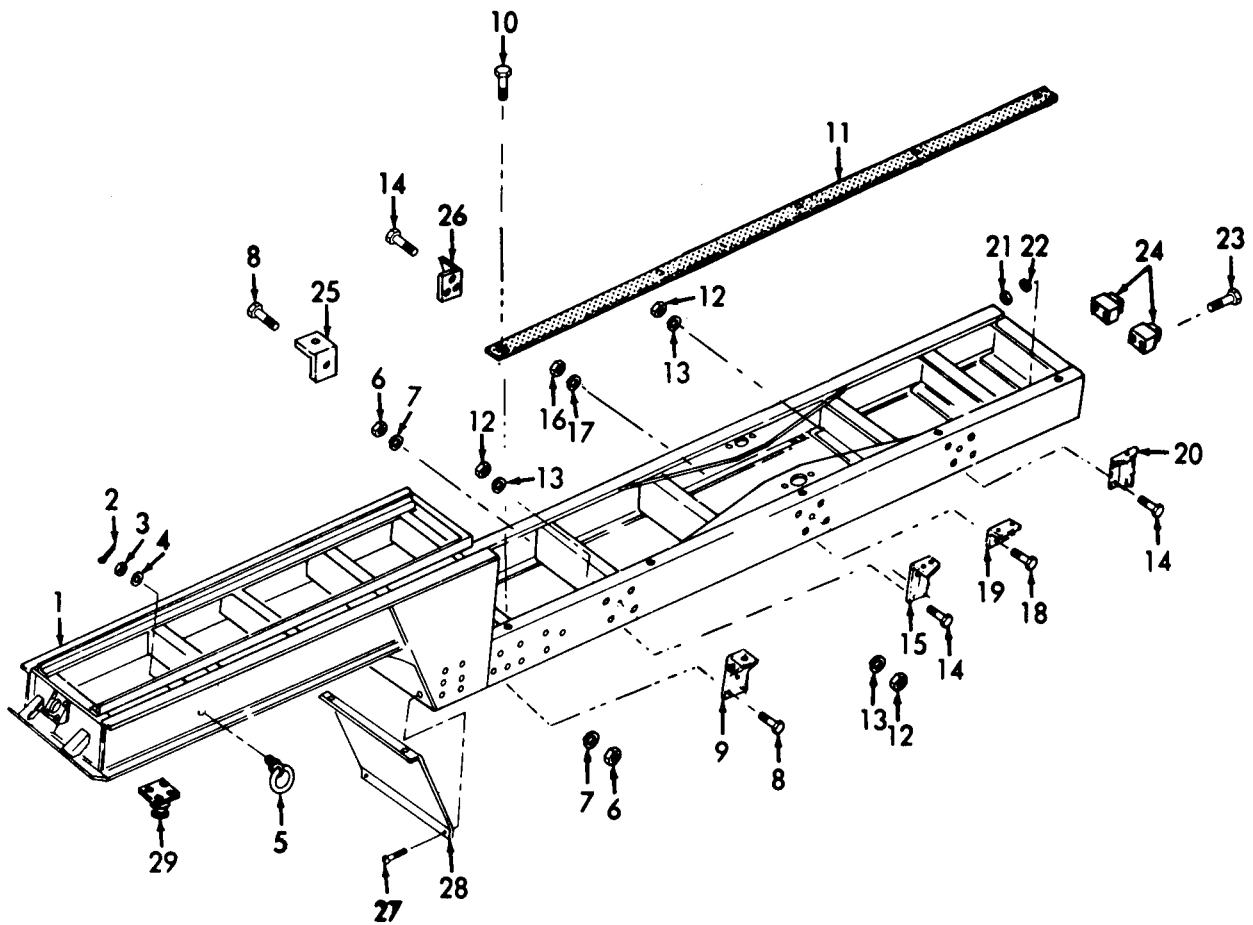

Figure 19-16. Frame and Brackets.
- a. Removal. Refer to figure 19-16 to remove the front brackets.
- b. Installation. Install the front brackets as shown in figure 19-16.
## LEGEND FOR FIGURE 19-16: